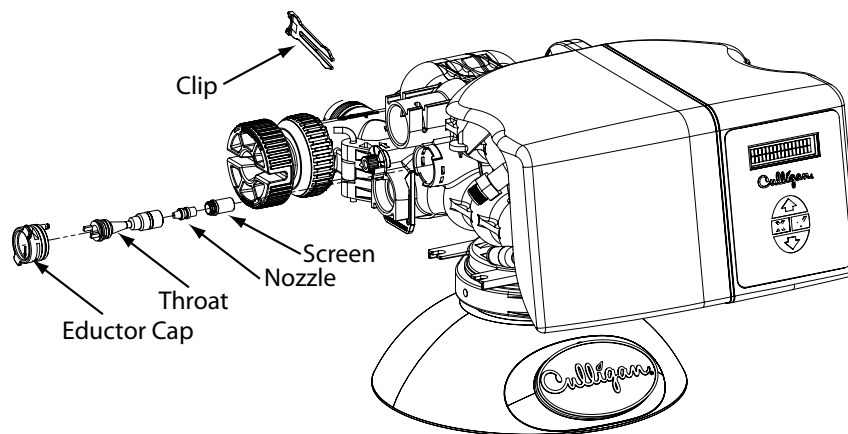
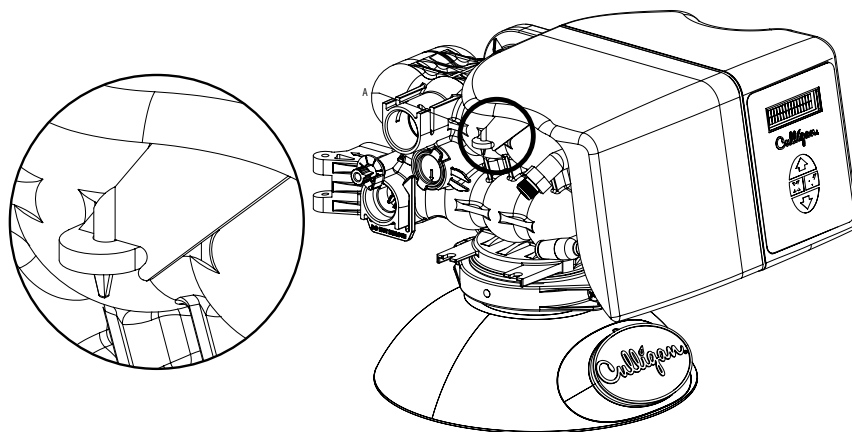
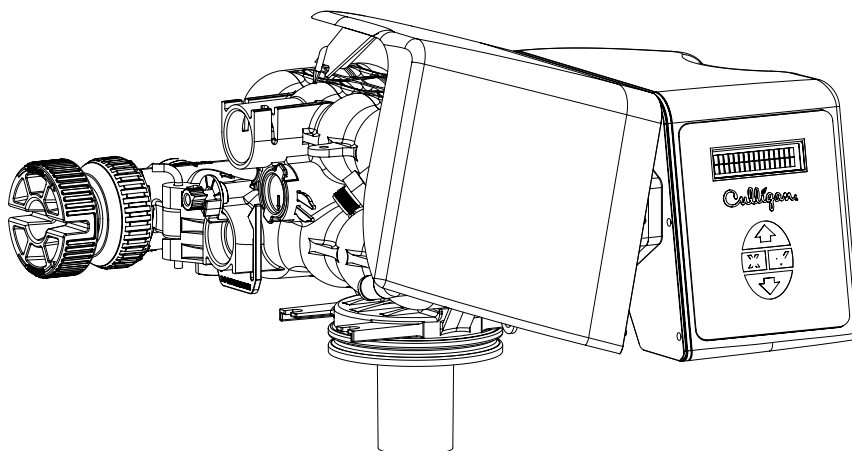
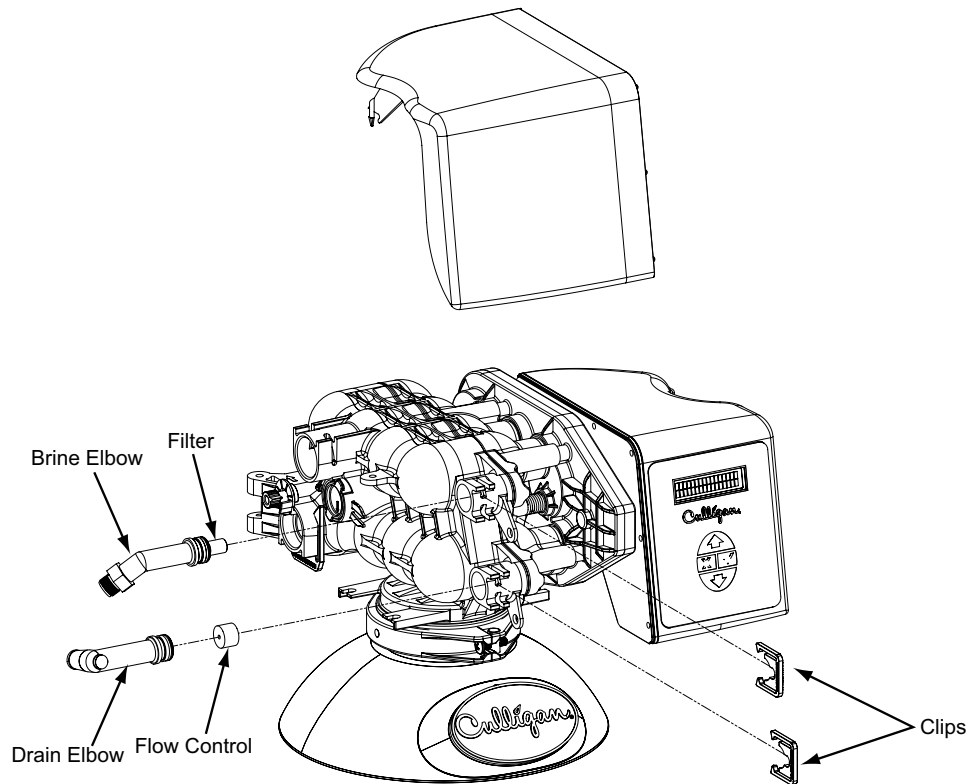

Figure 6. Removing the eductor nozzle and throat.
Figure 7. HE Twin softener cover fastener clip.
Figure 8. Removing the HE Twin softener cover.
Figure 9. Removing the drain elbow and brine elbow.
Refer to Figure 6 through Figure 8 and instructions below for changing the backwash flow control, eductor nozzle, and eductor throat.
Refer to Figure 6 and the instructions below when changing the eductor nozzle and throat.
Refer to Figure 7 through Figure 9, Table 2, and instructions below to replace the backwash flow control.
1. Remove the cover by releasing the cover fastener from the control valve. See Figure 7 and Figure 8.
2. Remove the drain clip and pull the drain elbow straight off. See Figure 9.